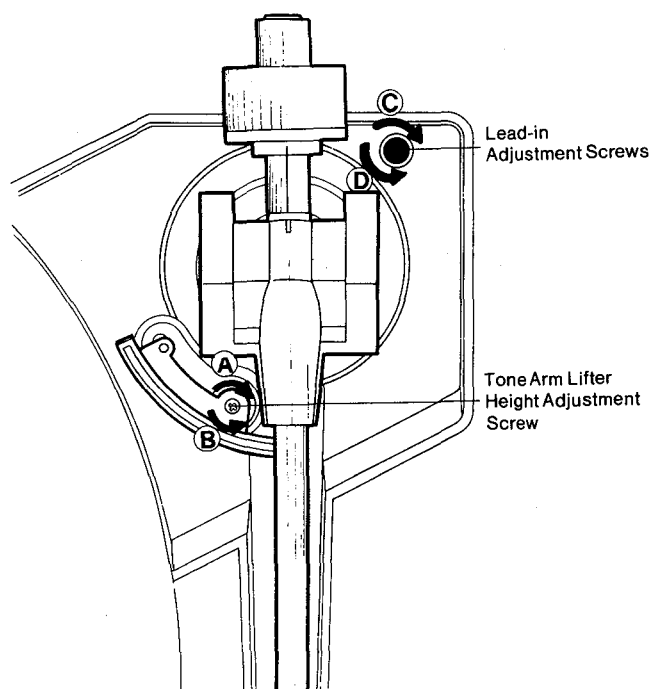

Fig. 5 Tone Arm Height Adjustment, Lead-IN Adjustment
- (A) Clockwise : down
- (B) Counterclockwise : up
4. LEAD-IN POSITION ADJUSTMENT (Refer to Fig. 5)